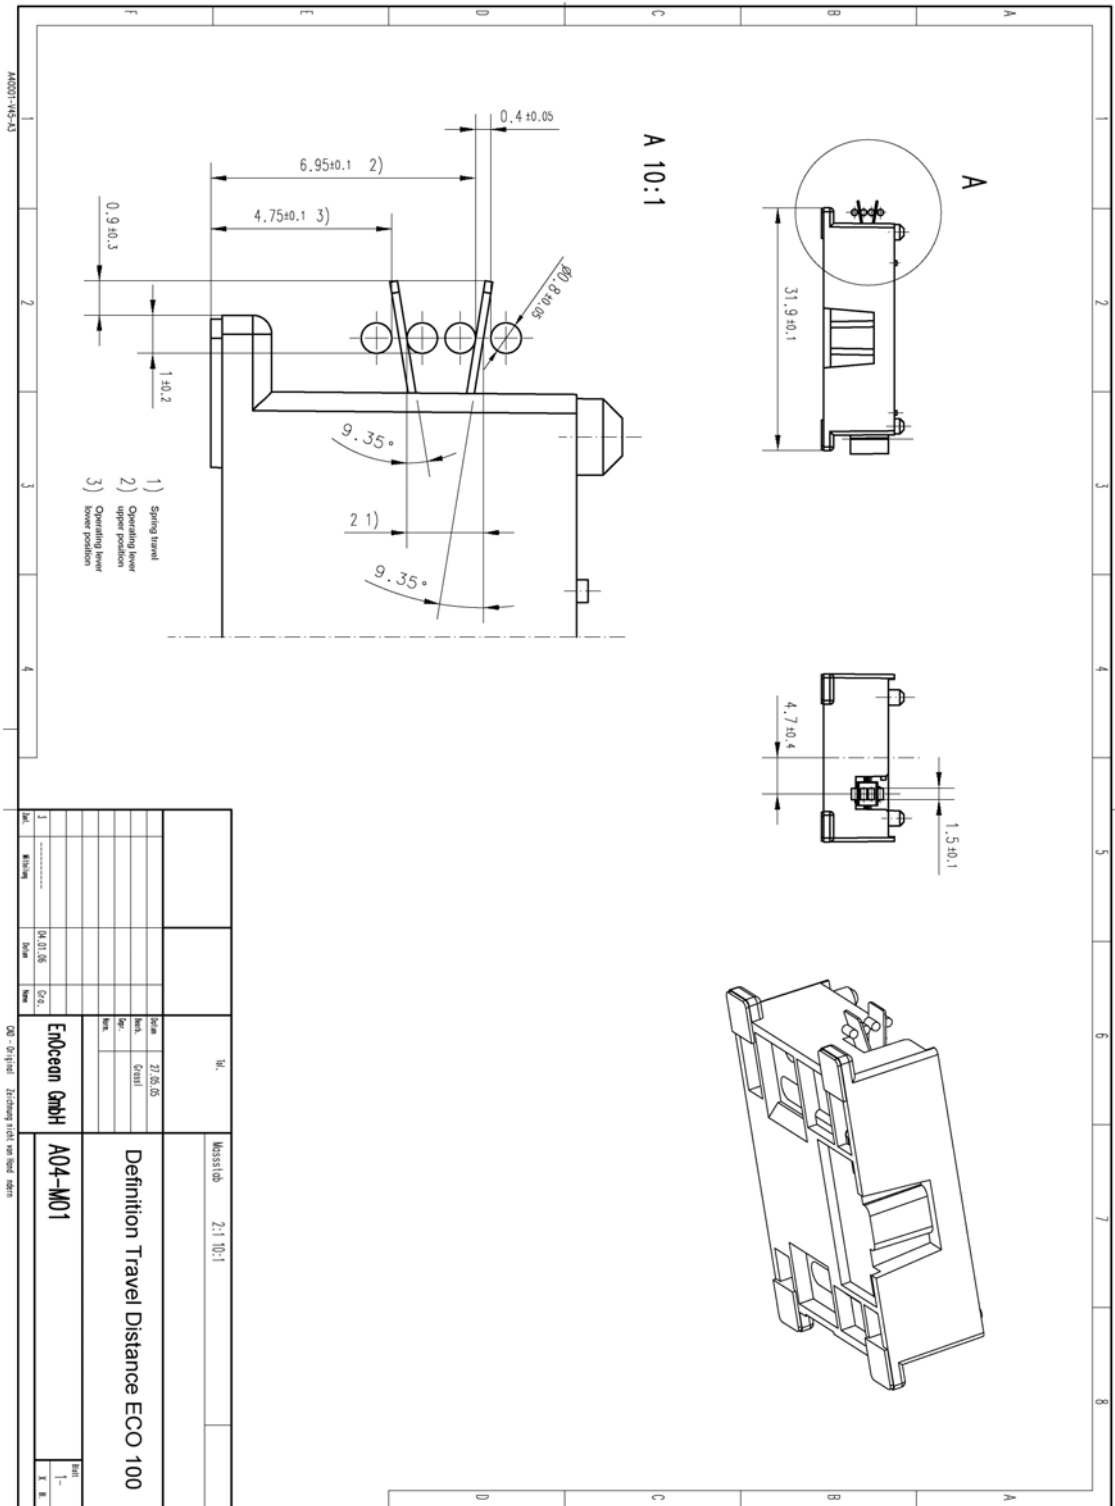

Figure 4: Definition of the rest positions and travel distance of the spring
- The spring needs play of 0.4mm within operating lever as shown in Figure 4